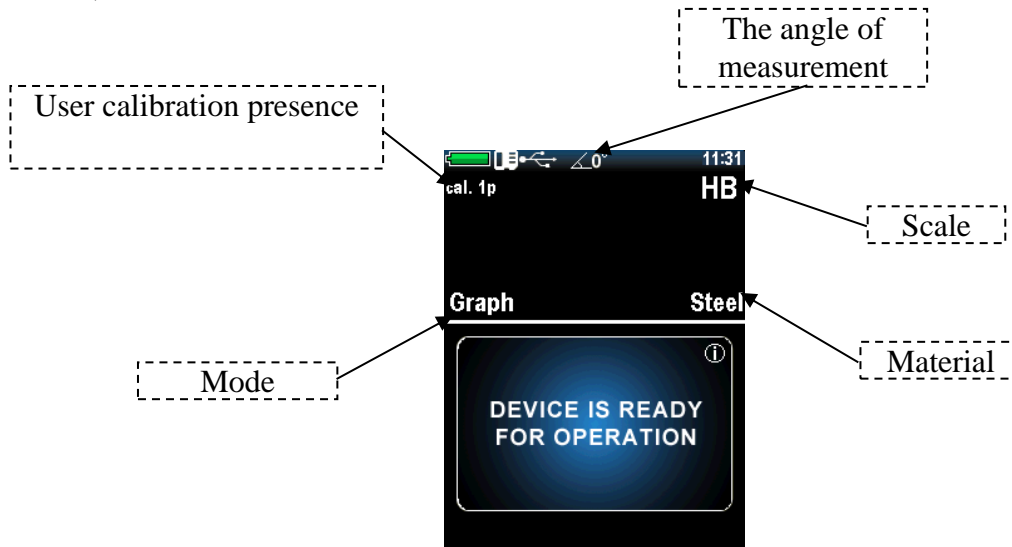

Figure 2.13 - <MEASUREMENT> SECTION
4. Since the probe is connected the device goes to the <MEASUREMENT> mode at once (Fig. 2.13).
5. Select the needed hardness scale, press  to assess the choice menu (fig. 2.13), than select the needed scale with  and  keys (the Rockwell C (HRC), Brinell (HB), Vickers (HV), Rockwell B (HRB), Shore (HS), Leeb (HL), the measurement of tensile strength (σ_v) Tensile products of carbon steel pearlite (MPA), user's (U1, U2, U3)).
6. Select the desired material. By pressing  open the selection menu (fig. 2.13), with the keys  and  select the desired material (steel, alloy steel, stainless steel, gray iron, ductile iron (<NODULAR. IRON>) aluminum, brass, bronze, copper, a user (<USER 1>, <USER. 2>)).